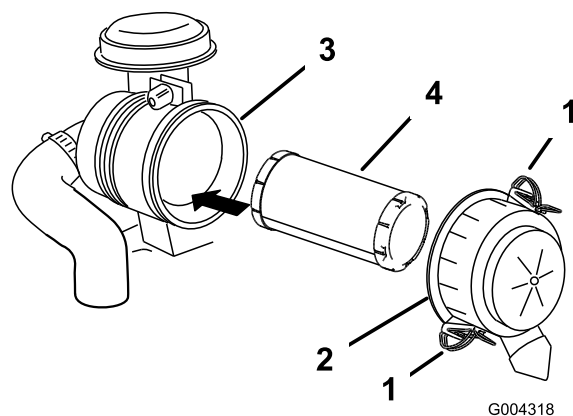

Figure 32
- Gently slide the air filter out of the air cleaner body (Figure 32). Avoid knocking the filter into the side of the body.
- Carefully slide the air filter into the body (Figure 32).
- Install the air cleaner cover with the side indicated as **UP** facing up and secure the latches (Figure 32).
- Release the latches on the air cleaner and pull the air cleaner cover off of the air cleaner body (Figure 32).